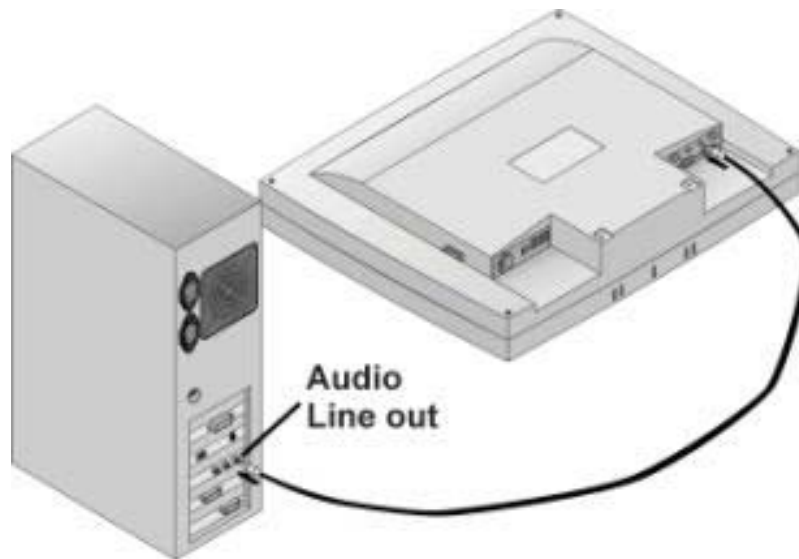

Figure 1-6: Connecting the Stereo Speakers
2. Connect the other end of the 1.5M sound cable to the LCD monitor's line-in jack. Please refer to *Figure 1-6*.